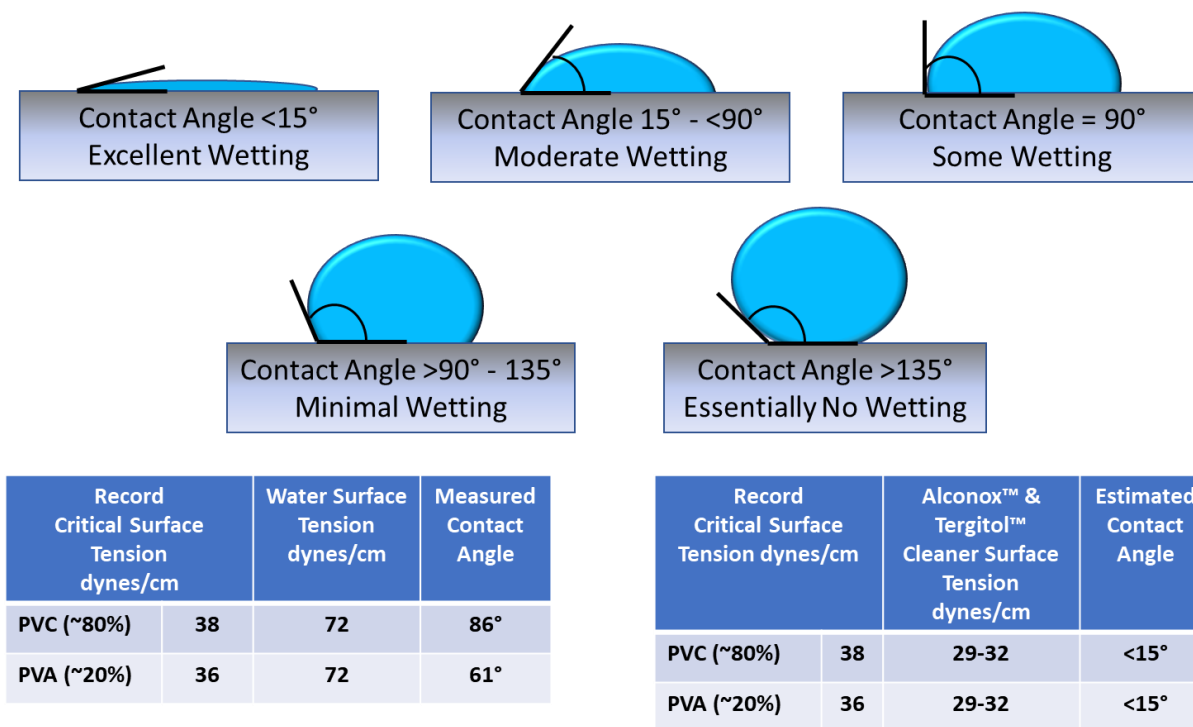

Figure 36 – Contact Angles and Wetting
VIII.3 Supporting the discussion of surfactants, is the concept of ‘wetting’. All fluids have a surface tension measured in dynes/cm (English units); “*the attractive force exerted upon the surface molecules of a liquid by the molecules beneath that tends to draw the surface molecules into the bulk of the liquid and makes the liquid assume the shape having the least surface area.*” All solids have surface energy that is likewise measured in dynes/cm and is often called “critical surface tension”. Most metals have a very high critical surface tension (copper = 1360 dynes/cm), much larger than the surface tension of water (72 dynes/cm). But the PVC/PVA in a record is very low at 38/36 dynes/cm; much lower than water. When a fluid is placed on a solid surface, depending on the difference in surface tensions (and other factors), the fluid will form a contact angle with the surface, and this is illustrated in **Figure 36**.
- VIII.3.3 However, in **Figure 36**, the critical surface tension of the record's materials is much less than water, and the large contact angle produced by water is consistent with **Figure 23** that shows DIW beads-up when sprayed on the clean record.